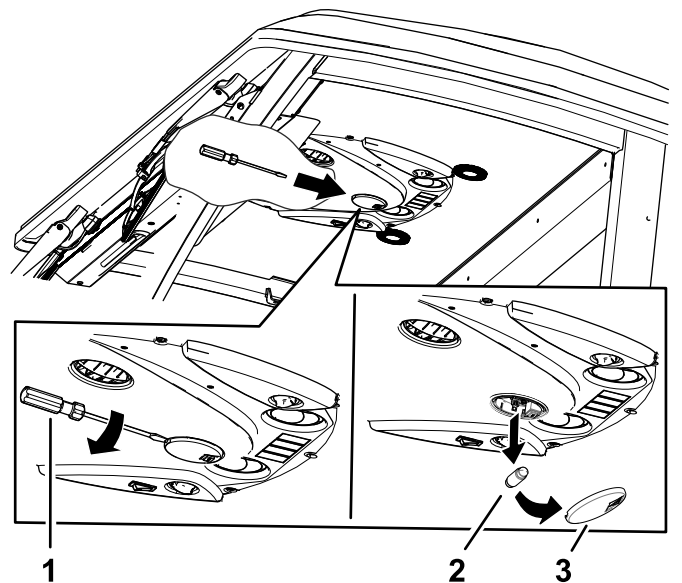

Figure 120
1. Use a screwdriver to remove the light lens from the control panel. (Figure 120)
2. Remove the bulb from the light base (Figure 120).